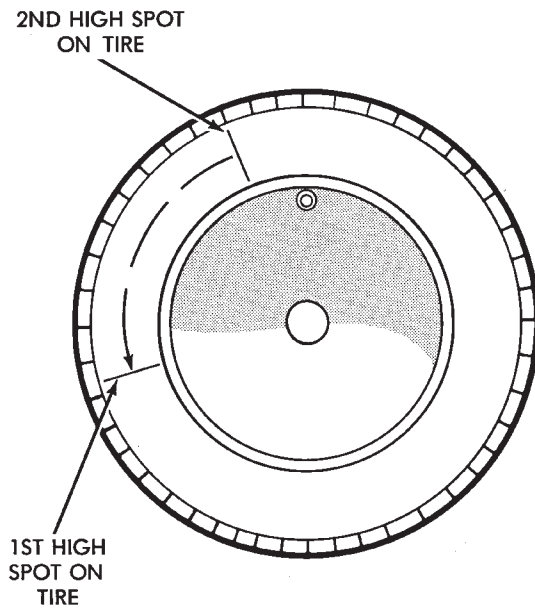

Fig. 10 Remount Tire 90 Degrees In Direction of Arrow
(3) Measure the total indicator runout again. Mark the tire to indicate the high spot.
(4) If runout is still excessive, the following procedures must be done.
- If the high spot is NOT within 102 mm (4.0 in.) of either high spot, draw an arrow on the tread from second high spot to first. Break down the tire and remount it 90 degrees on rim in that direction (Fig. 10). This procedure will normally reduce the runout to an acceptable amount.